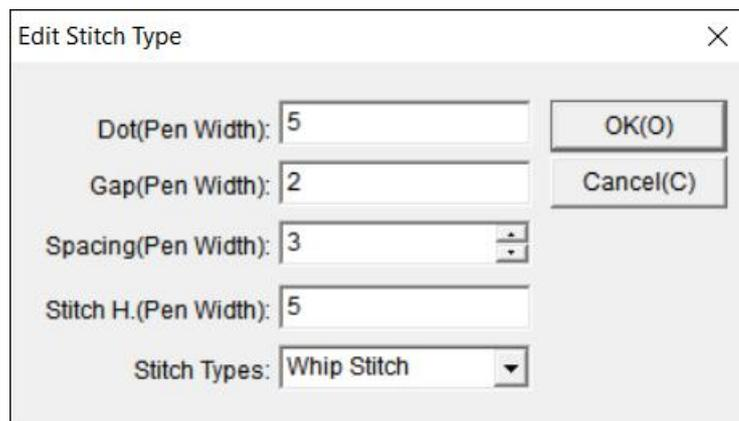

Figure 4-44
■  Select Edit multi-line to pop up the dialog box for changing line type (Figure 4-44), and you can reset and modify the currently selected stitch parameters. The current stitch type is displayed in the change line type dialog box. Set Dot(Pen Width)\Gap(Pen Width)\Spacing(Pen Width)\Stitch H.(Pen Width)\Stitch Types according to your needs. Click "OK" to edit the stitches. If you click "Cancel" to return to the previous state.